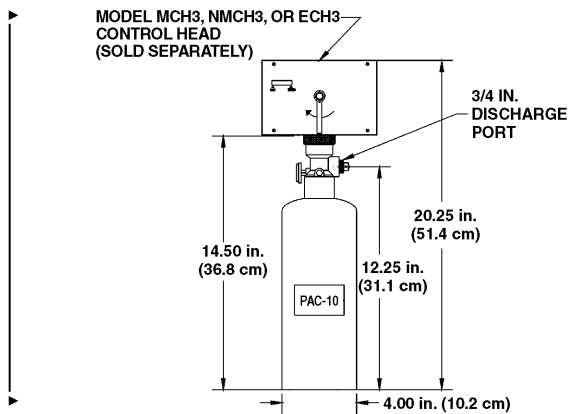

Figure 2.8. Model PAC-10 Pneumatic Actuating Cylinder.
The Model PAC-10 is a pneumatic actuating cylinder that can actuate a maximum of ten (10) agent cylinders simultaneously. The Model PAC-10 includes a DOT 4BA350 cylinder pressurized with dry nitrogen to 350 PSIG @ 70° F. (24.1 bar @ 21 °C), a brass valve with pressure gauge, and a wall mounting bracket. A Model MCH3, NMCH3, or ECH3 control head must be purchased separately and connected to the PAC-10 to open the valve. See **Figure 2-8**.